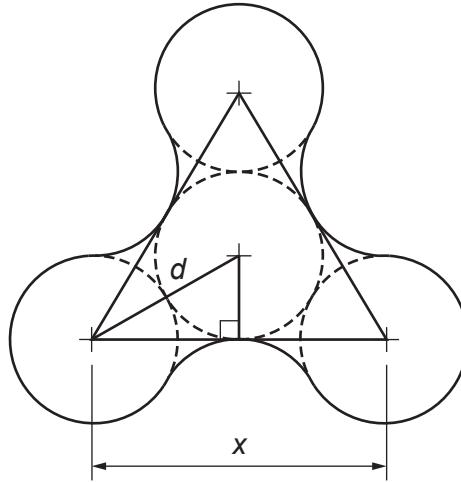

Fig. 2.3
Fig. 2.3 shows a working drawing of the fidget spinner.
(b) Use the information in Fig. 2.3 to answer the following questions.
- (iii) The packaging for the fidget spinner is to be a square-based cardboard box. Using the information in **Fig. 2.3** and your answer to **part (ii)**, calculate the minimum internal length of the square base of the packaging.